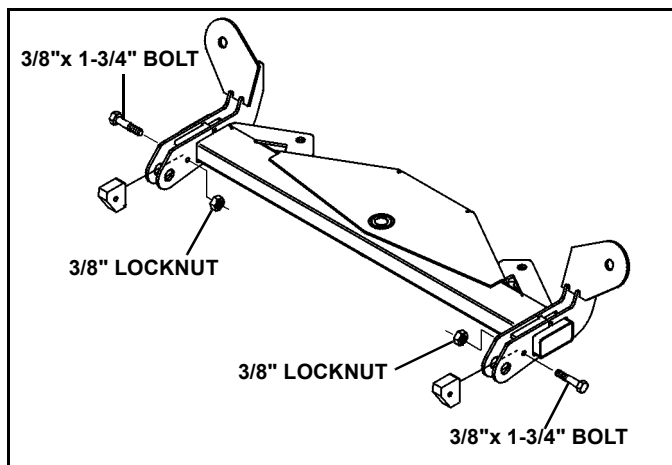

Figure 1-3
2. Place stops between the lugs on the swing frame. Secure with $\frac{3}{8}$ " x $1\frac{3}{4}$ " bolts and locknuts. (See Figure 1-3). The bolts and nuts are in the blade parts bag.